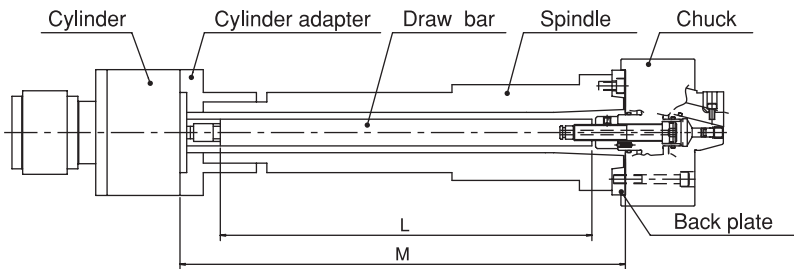

Fig. 11
- Fig.11 shows the case of the JIS short taper standard.
The dimension L in Fig.11 is determined from the distance M between the cylinder adapter and the back plate.